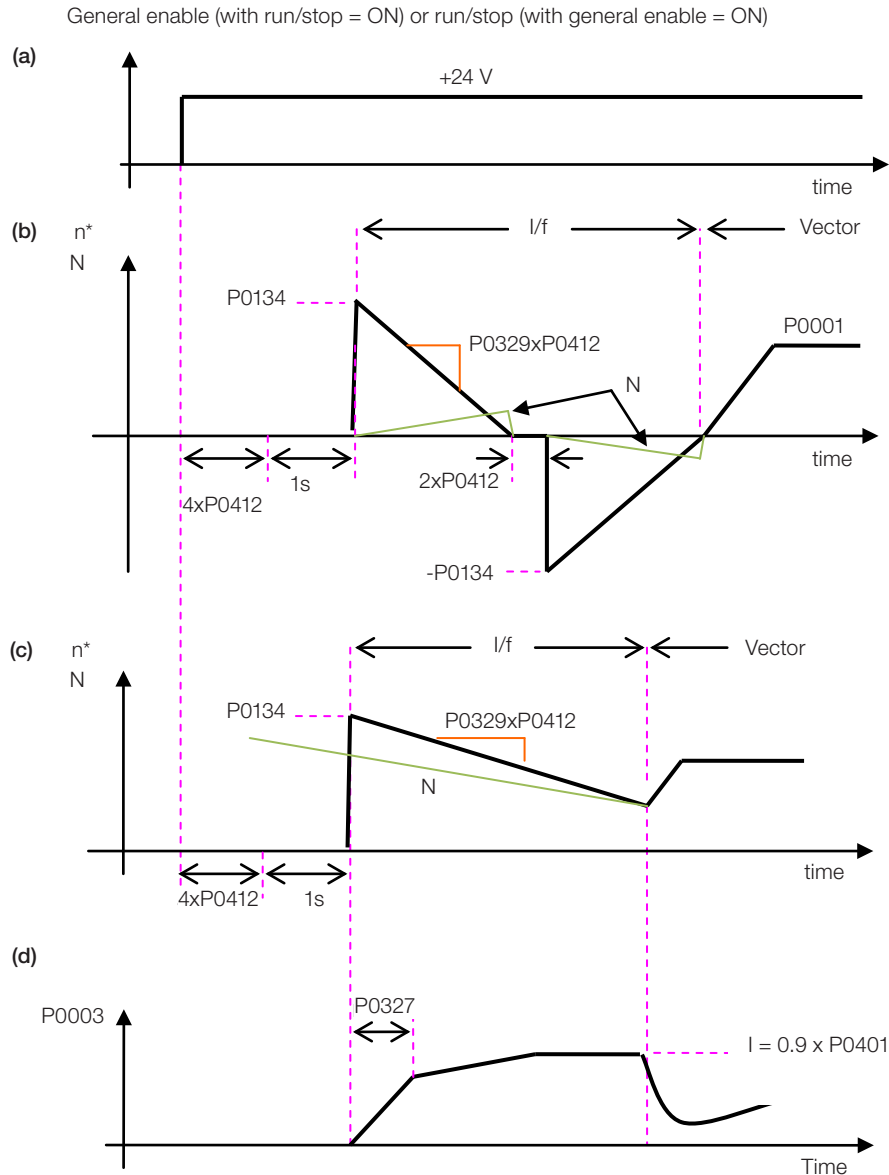

Figure 12.4: (a) to (d) Influence of P0327 and P0329 during Flying Start (P0202 = 4)
The behavior of the Flying Start function (FS) in the sensorless mode during acceleration and reacceleration can be understood from the Figure 12.4 on page 12-11.
The Figure 12.4 on page 12-11 shows the behavior of the speed reference when the FS function is started with stopped motor shaft and small P0329 value (not optimized).
The Figure 12.4 on page 12-11 shows the speed reference when the FS function is initiated with the motor shaft already running in the desired direction, or with stopped shaft and an already optimized P0329.